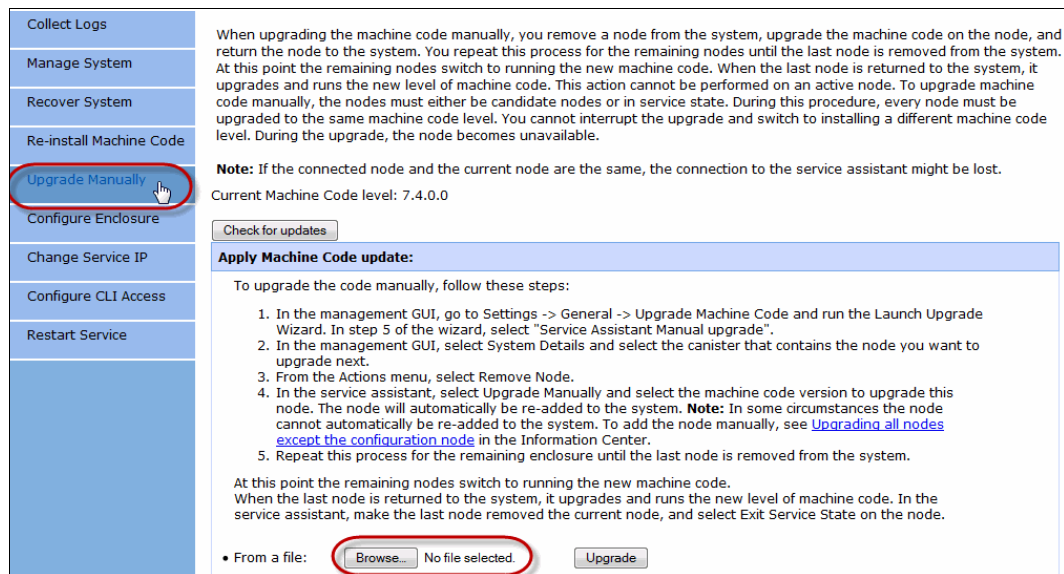

Figure 11-43 Select software file for upgrade
13. In the SA tool, select **Upgrade Manually**, and select the required node canister software upgrade file, as shown in Figure 11-43.